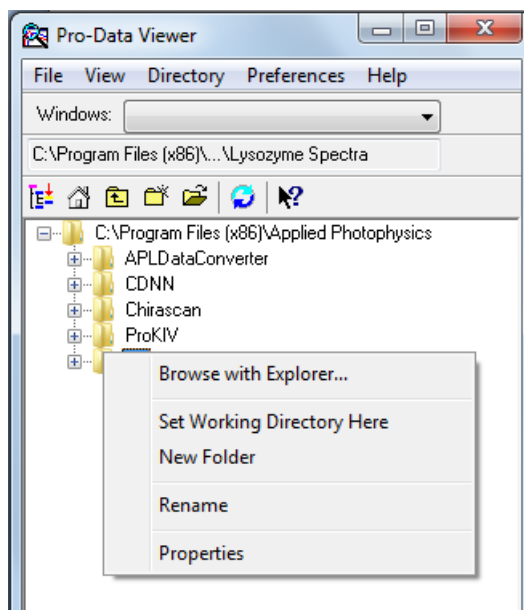

Figure 2-2: the Pro-Data Viewer file browser
5) Start Pro-Data Viewer program using the Viewer  icon on the Pro-Data Viewer toolbar. Navigate in the Pro-Data Viewer file browser (Figure 2-2) to your preferred save directory and right click on it selecting **Set Working Directory Here**. New data files will now automatically be saved in this directory.